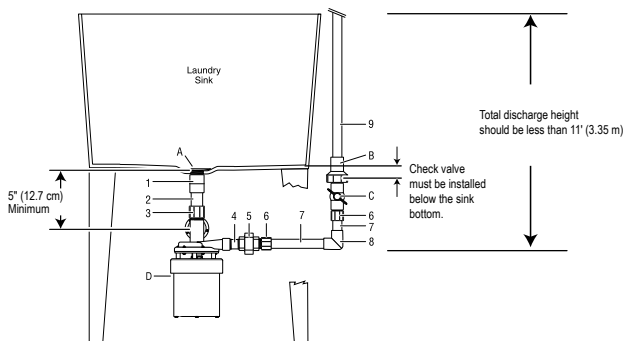

Figure 2: Pump Installed
- A 5" (12.7 cm) space is needed from sink bottom to inlet for proper operation, refer to Figure 2.